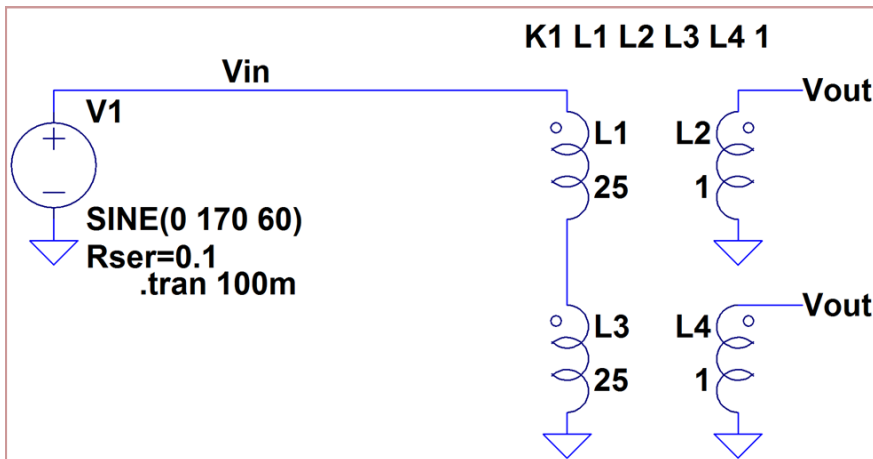
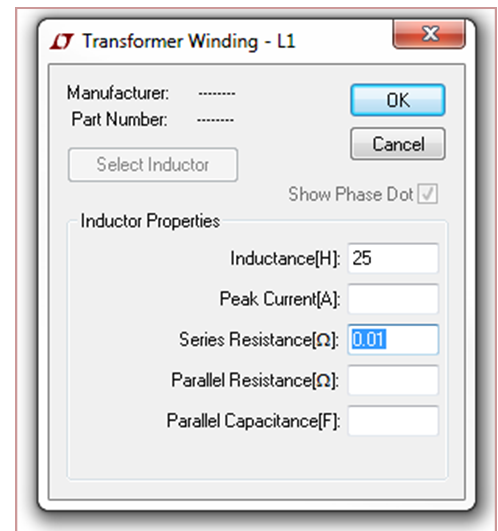

Figure 15. Series primary windings and parallel secondary windings.
Figure 16. Adding series resistance.
1. Simulate the schematic shown in Fig. 15. The transformer has 4 inductors representing two identical primary coils and two identical secondary coils. The coupling statement has changed to reflect the coupling between all 4 coils. You must also add some series resistance to each coil. Right click on each inductor and add a series resistance of 0.01 ohm as shown in Fig. 16. LTSpice doesn't like two ideal inductors connected directly in parallel.
2. The transformer circuit shown in Fig. 15 has the primary coils connected in series and the secondary coils connected in parallel. If you drew the circuit correctly then the output voltage will be 17V peak.